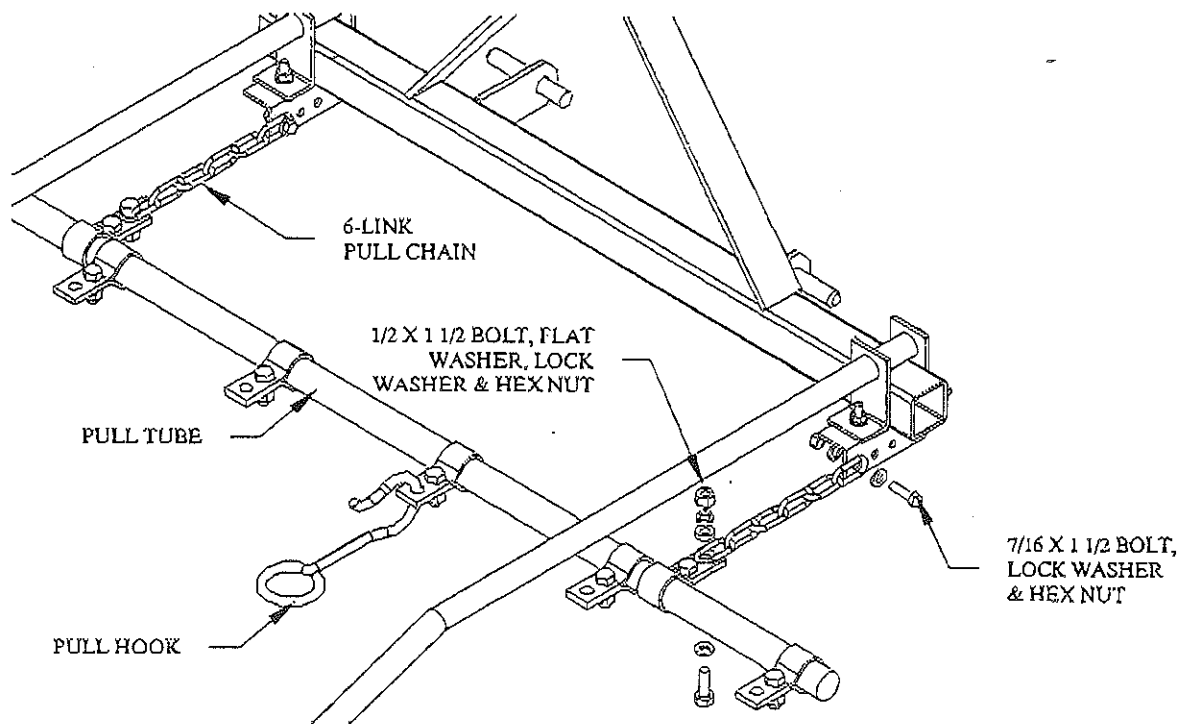

Figure 2
1. Bolt the 6-link pull chains to the pull points. Use 7/16 x 1 1/2 bolts, lock washers and hex nuts. Refer to figure 2.
2. Bolt the pull chains to the pull tube. Use 1/2 x 1 1/2 bolts, flat washers, lock washers and hex nuts. Refer to figure 2.
3. Attach the section pull hooks to the pull tube. Refer to figure 2.